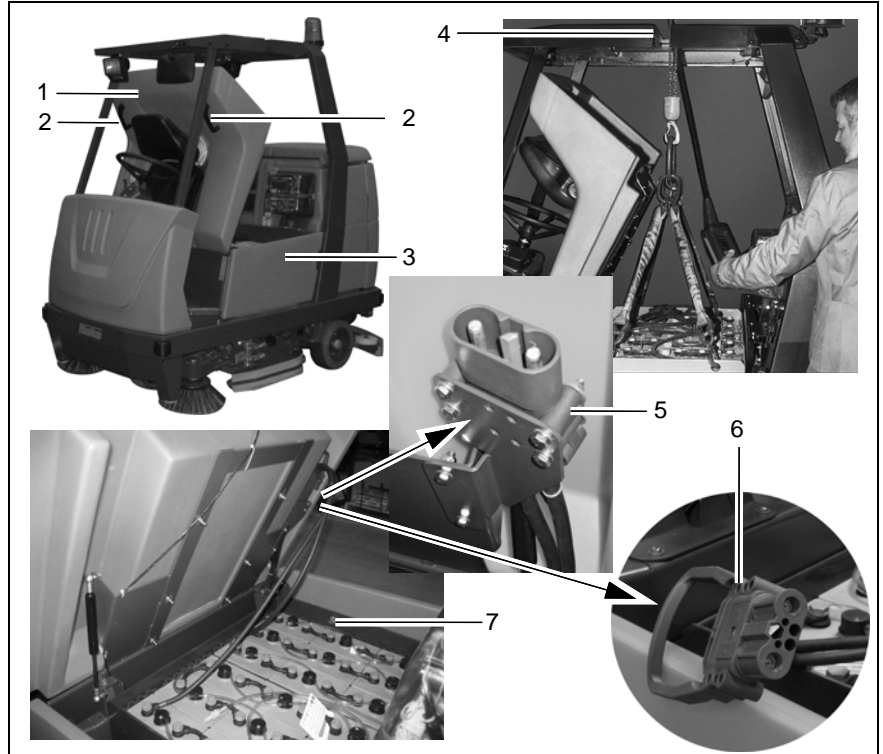

Fig. 24
2. Open the side doors to the left and right (Fig. 24/3).
3. Position yourself on the right-hand side of the vehicle, take hold of the seat console at the handle (Fig. 24/2) and pivot up towards the front.
Pivot the seat console (Fig. 24/1) open from the right-hand side of the vehicle otherwise your hands could be crushed between the seat console and cab safety roof (if fitted).
4. Disconnect the battery and vehicle plug (Fig. 24/5+6).
If the Hakomatic B 1050 W is equipped with a cab safety roof, lift the trough battery out on the left-hand side of the battery. The cab safety roof has a recess (Fig. 24/4) for the lifting gear rope.
5. Guide the lifting gear from the left to the battery and hang the hooks in the fitting holes on the battery trough (Fig. 24/7).
1. Open the side doors to the left and right (Fig. 24/3).
2. Take hold of the seat console (Fig. 24/1) at the handle (Fig. 24/2) and pivot it forwards to open it.
If the Hakomatic B 1050 W is fitted with a cab safety roof, the trough battery can only be installed from the left-hand side of the vehicle; the cab safety roof is provided with a recess (Fig. 24/4) for the lifting gear rope.
Connect the battery plug (Fig. 24/6) and vehicle socket (Fig. 24/5) to each other. Ensure they are connected firmly.